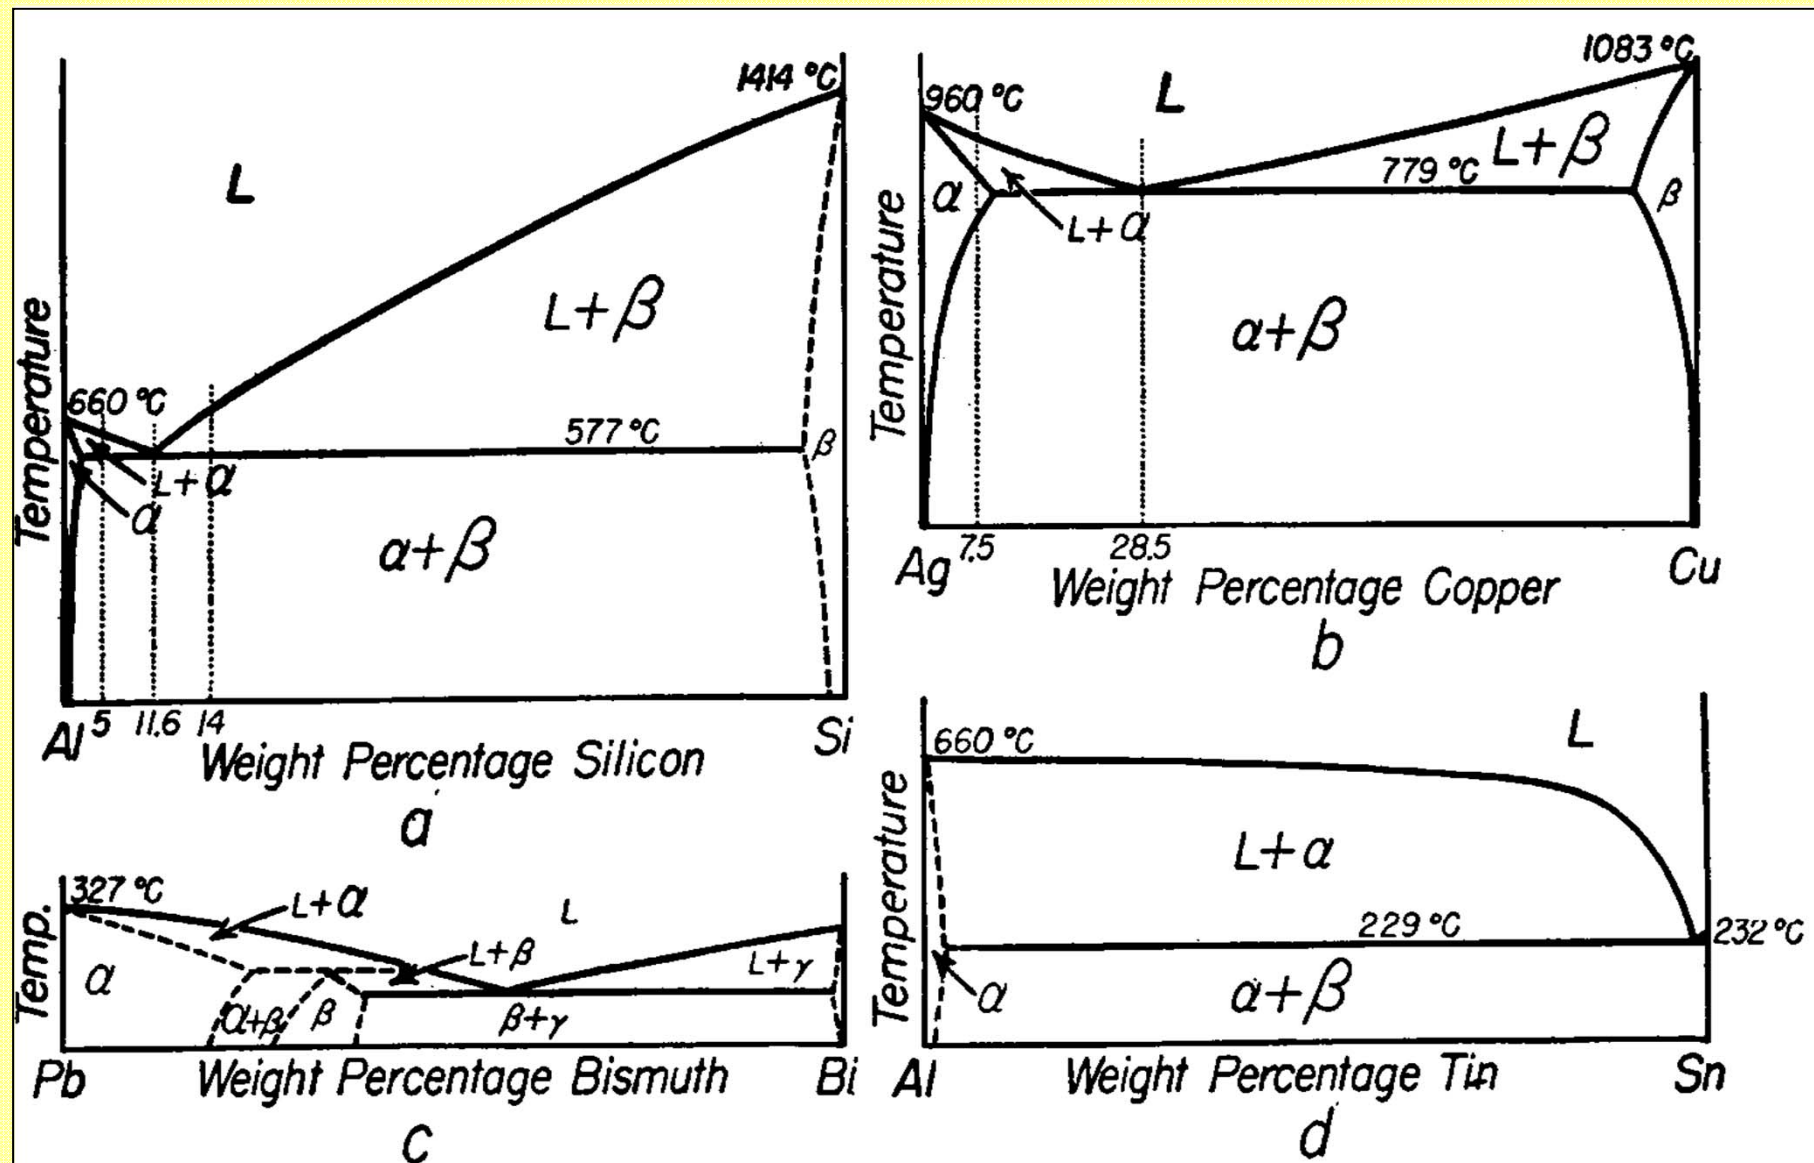

FIG. 4-5. Phase diagrams of some typical eutectic-type systems.
FIG. 4-6. Typical microstructures of some cast eutectic alloys: (A) Al-Si 11.6%, magnification 500; (B) Ag-Cu 28.5%, magnification 2,000; (C) Pb-Bi 56.5%, magnification 100; and (D) Al-Sn 99.5%, magnification 650. See also Fig. 4-5.